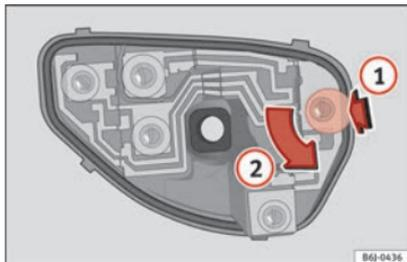

Fig. 107 Changing the tail light bulbs
- When the bulb holder has been removed, press in the direction of the arrow **1** and at the same time, turn in the direction of the arrow **2** » Fig. 107